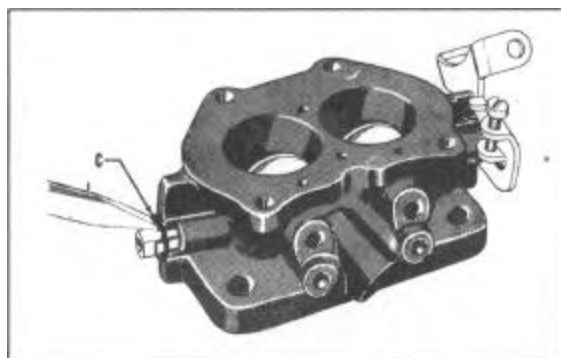

FIGURE 67
3. With throttle closed, press shaft from lever side and install throttle centering washer at "C", Figure 67, prongs of washer extending outward. Press washer tight against carburetor casting.